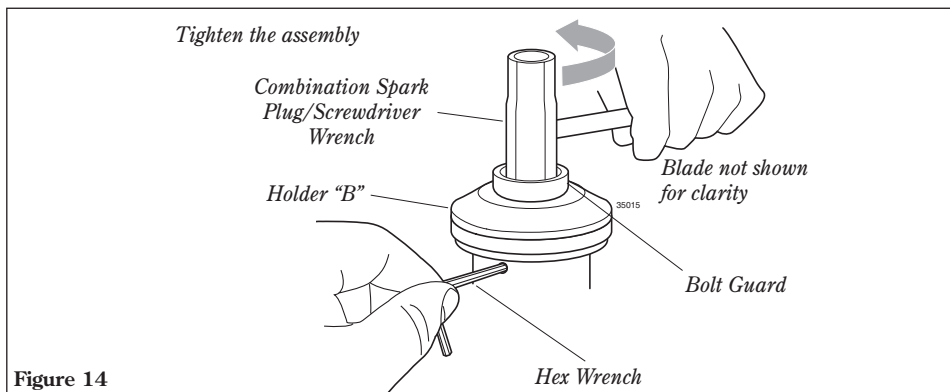

Figure 14
7. Lock holder "A" to the gearcase by inserting the long end of the hex wrench through both holes as done in step 1 and tighten the shaft bolt securely with the combination spark plug/screwdriver wrench. See Figure 14.